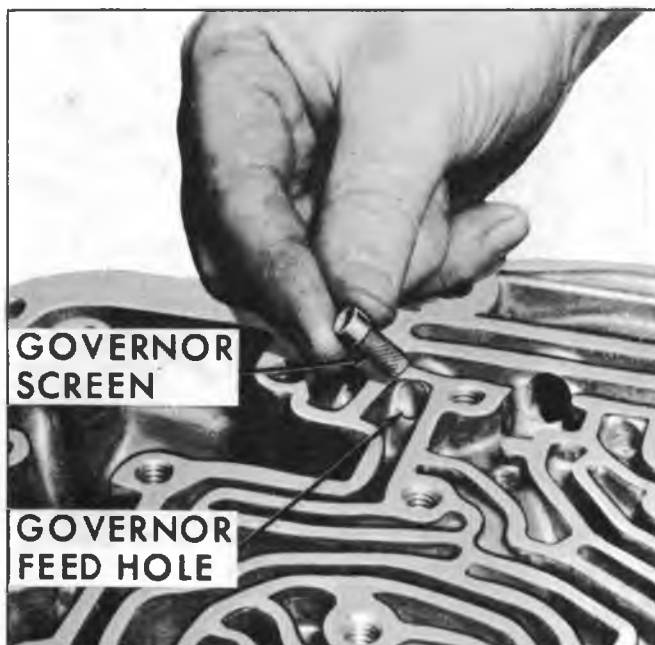

Fig. 18M--Removing Governor Feed Screen
7. Remove governor feed screen from governor feed hole (drive oil) in case (fig. 18M).